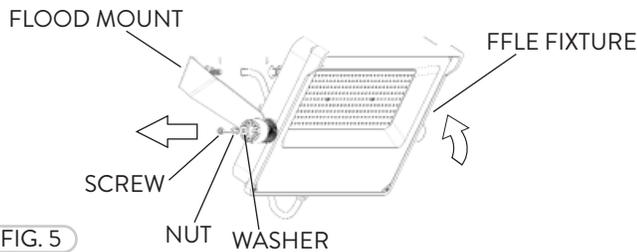

FIG. 5
5 The Flood Mount can be rotated. Loosen the Cap Head Screws (2) and adjust the tilt angle of the FFLE fixture to point towards the desired location. Tighten the Screws to hold the FFLE fixture in place (Fig. 5).